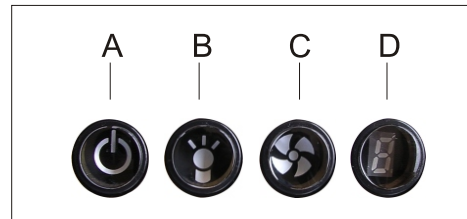

Fig.13
1. Turn the three nuts at the front of bottom board. ( Fig.13)
Operate switches (Fig.13)